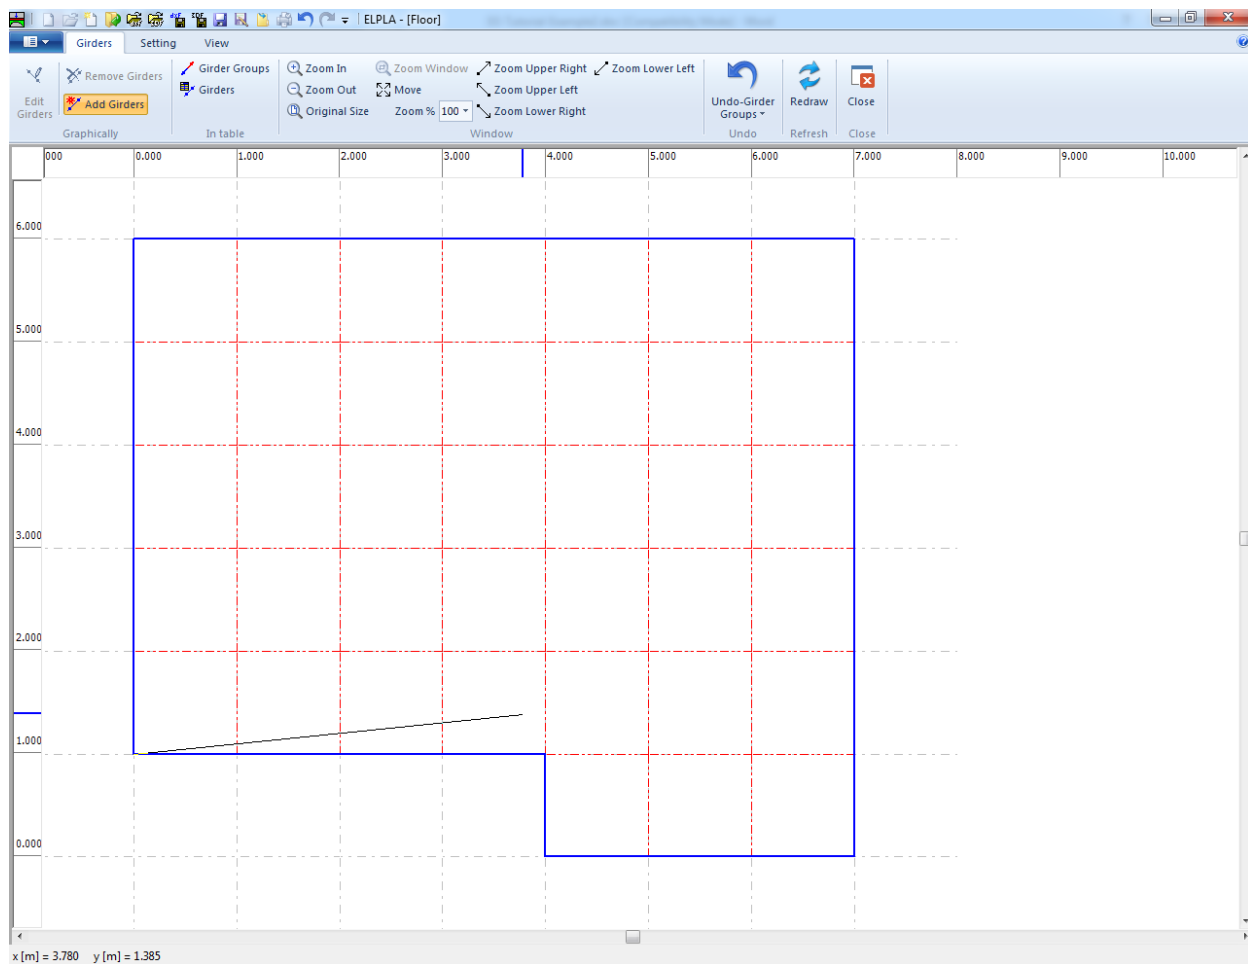
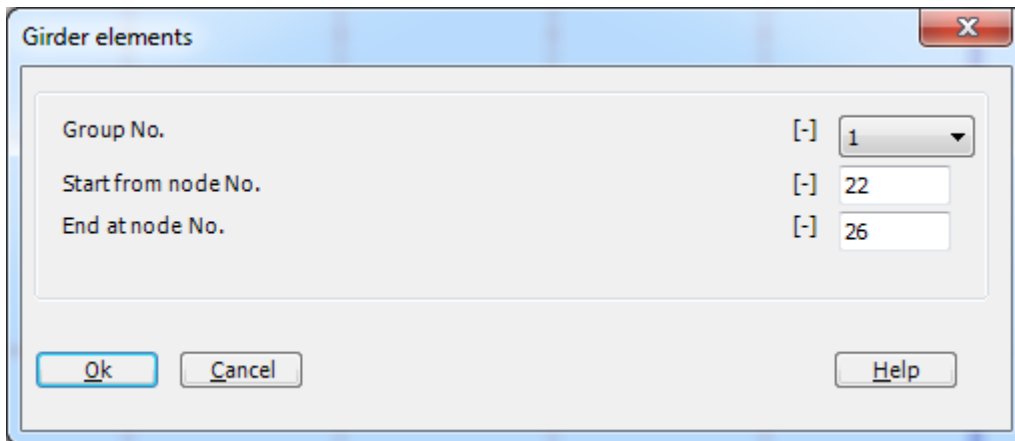

Figure 2.16 Add girder by mouse
Figure 2.17 "Girder elements" dialog box
- Click the left mouse button on the start node of the first girder. Then drag the mouse until the end node of that girder (Figure 2.16) and click on the end node. The "Girder elements" dialog box in Figure 2.17 appears